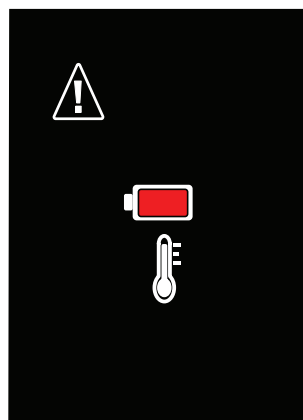

Fig. 21: Battery temperature warning message
- With the leak detector on and the charger connected the display will indicate charging and progress with the lightning bolt symbol in the upper right corner of the screen, see Fig. 21.